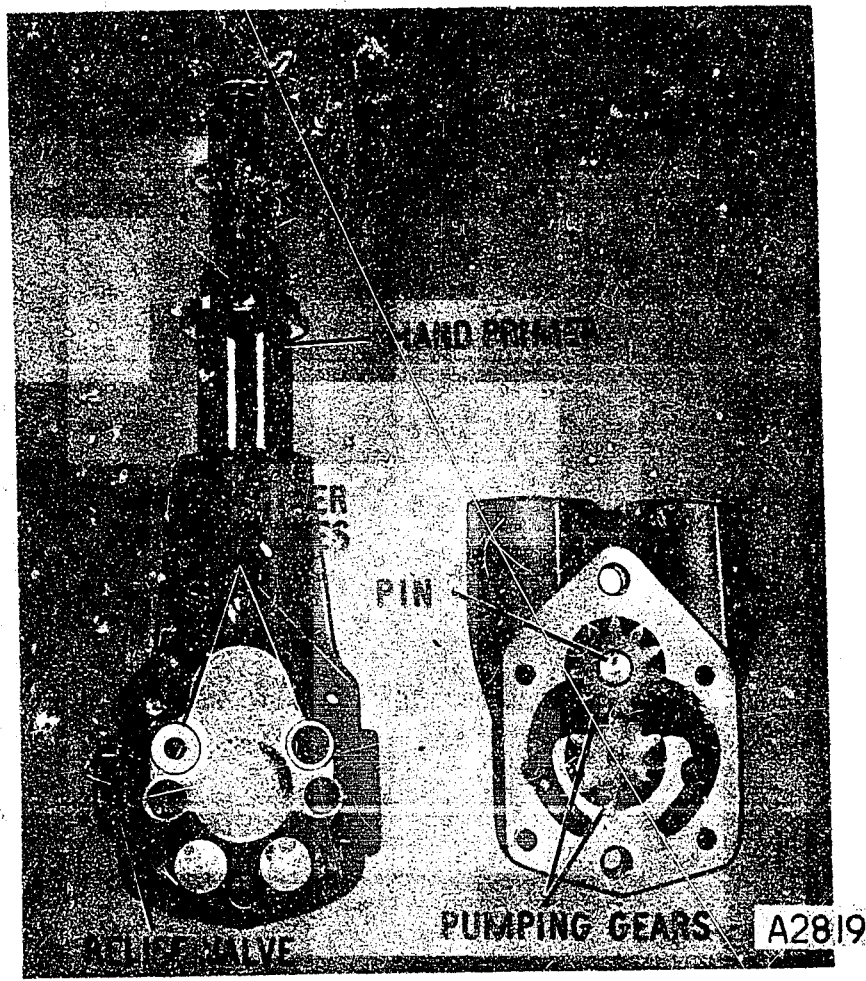

FIGURE 3 - HAND PRIMER CHECK VALVES AND PUMPING GEARS
| 2) Coat lips of oil seal (17) with clean S.A.E. #20 or #30 oil. | 6) Assemble hand primer check valves (1) in bores as follows (Refer to Figure 3): | |